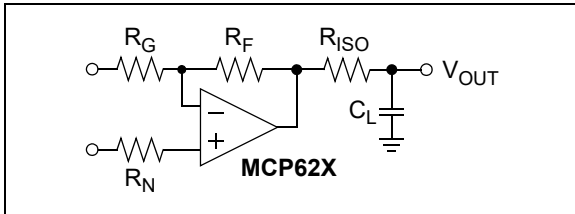

FIGURE 4-9: Output Resistor, R_{ISO} Stabilizes Large Capacitive Loads.
- Limit I_{OUT} using R_{ISO} (see Figure 4-9)
When driving large capacitive loads with these op amps (e.g., > 10 pF when $G = +1$), a small series resistor (R_{ISO} in Figure 4-9) improves the feedback loop's phase margin (stability) by making the output load resistive at higher frequencies. The bandwidth will be generally lower than the bandwidth with no capacitive load.